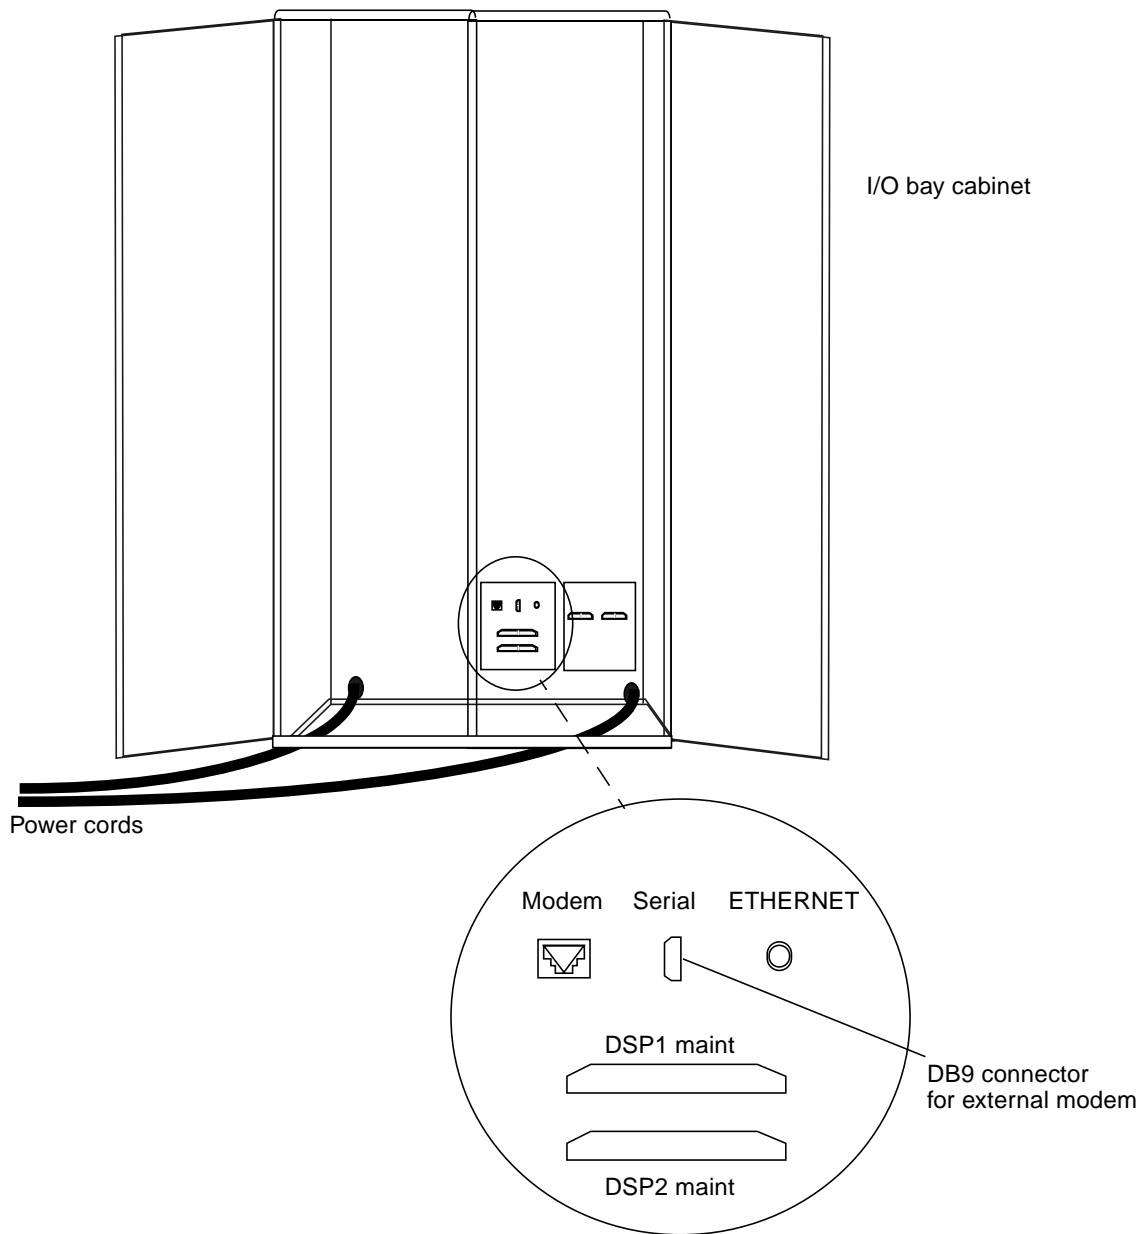

FIGURE 6-13 Modem Connector Assembly in I/O Bay Cabinet
- 5. The I/O bay cabinet contains a connector panel assembly with a DB9 connector. This connector is for the external modem used in some international installations. See FIGURE 6-13.**